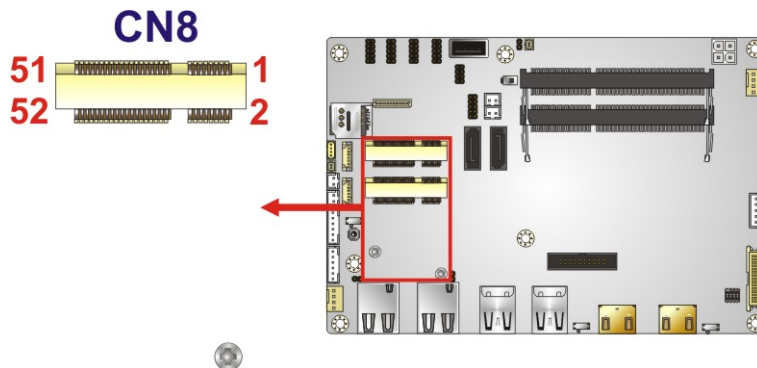

Figure 3-14: Full-size PCIe Mini Card Slot Location
- CN Location:** See **Figure 3-14**